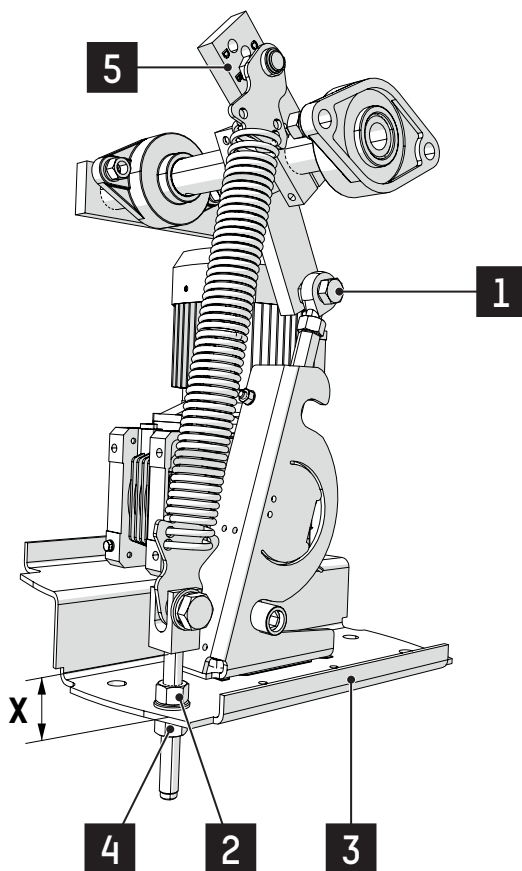

Fig. 27 - Balancing spring(s) settings
- (2) X = Distance of fixing plate /support (mm): ⇒ Fig. 27, page 29